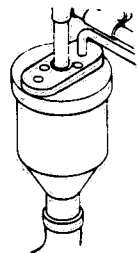

FIGURE 5-2 - Drain Connection
4. Verify that drain funnel is connected to building waste-line outlet (stubbing). See Figure 5-2.